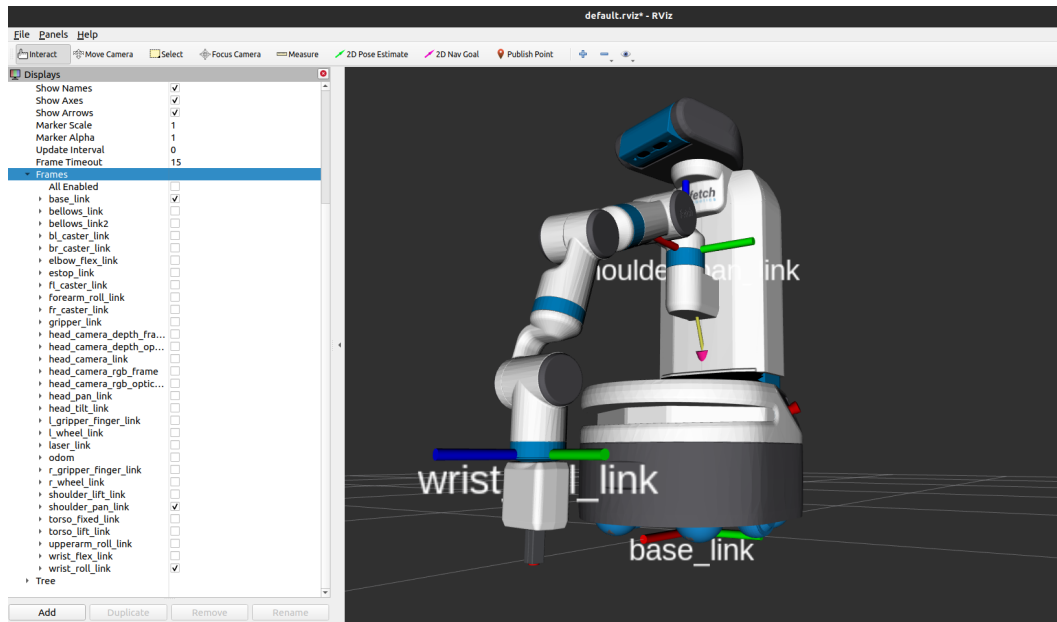

Figure 7: Enabling certain TF components in RViz.
**Answer:** Figure 7 shows a spawned Fetch robot in RViz with only certain TF components enabled and MotionPlanning disabled. The components requested include links to the base, the first arm joint, and the end effector. Since the definitions of these parts can vary, the following relationships between components and link names are assumed for clarification: